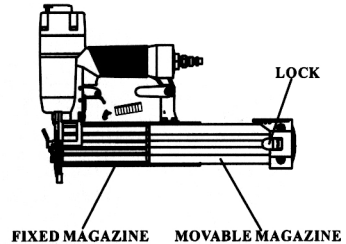

Figure 3
1. Depress the LOCK(61) to release the MOVABLE MAGAZINE (54) and pull the magazine out fully as shown in Figure 3.
2. Place a full clip of the specified type and size fasteners on the FIXED MAGAZINE (67), up to 100 fasteners may be loaded in the magazine.